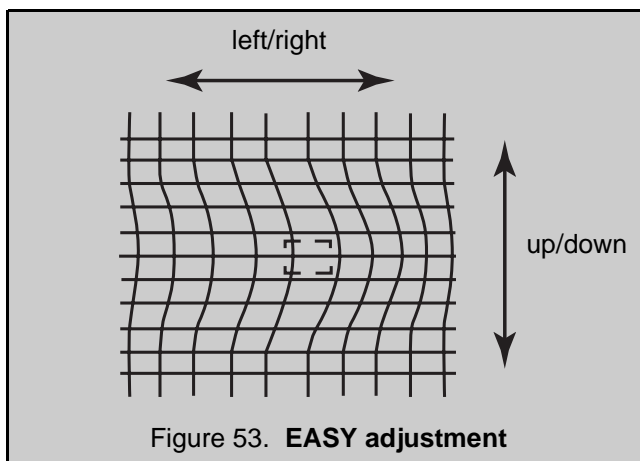

Figure 53. **EASY adjustment**
7. This mode affects a wide area around the cursor than other adjustment modes, See values on screen by pressing RECALL on remote (see figure 53)